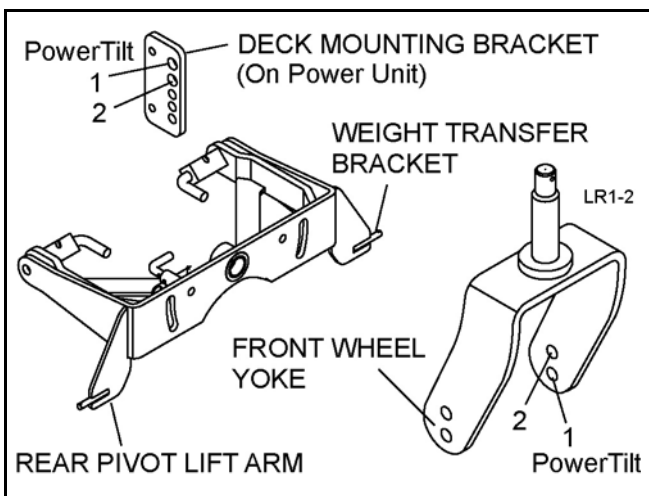

Figure 26. Mounting Hole Location
2. Attach rear pivot lift arm in desired power unit mounting bracket holes and connect with spring loaded pins. See Figure 26 for correct hole locations.
NOTE: Attach rear pivot lift arm in hole position 1 on deck mounting brackets when front wheels are in hole 1 on front wheel yoke. This will put the deck in the high cut range, (2 to 5 inches - manual, 1-1/4 to 5-1/2 inches - PowerTilt™). Attach weight transfer chains to weight transfer brackets using four links. Use the PowerTilt™ in hole position 1 as shown in Figure 26.
4. If the measurement is not 3/8" greater at the rear, check to make sure mower attachment arms are in the correct mounting bracket holes on the power unit, (see Figure 26).
4. When the caster wheels are moved to a different hole in the fork, it will be necessary to move the rear pivot lift arm to the corresponding hole in the power unit mounting brackets. See Figure 26, page 26.